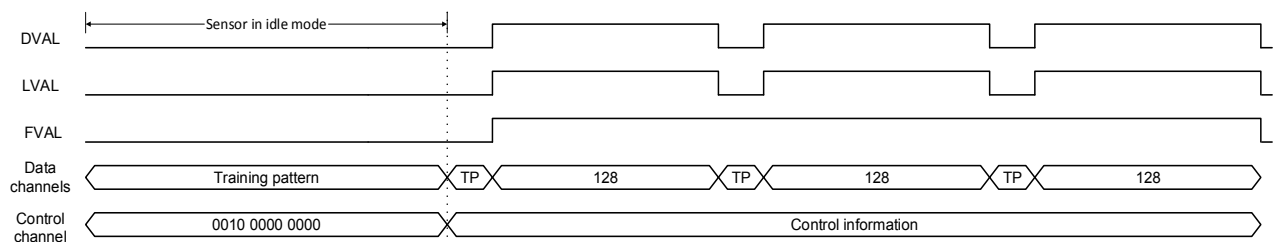

Figure 33: Training pattern location in the data and control channels.
Figure 33 shows the location of the training pattern (TP) on the data channels when the sensor is idle and when reading out 3 rows. The default mode of 16 outputs is selected.